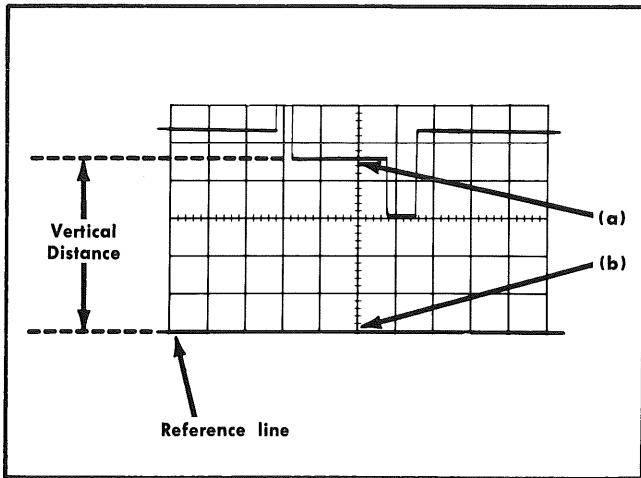

Fig. 2-2. Measuring instantaneous dc voltage with respect to a reference.
9. Measure the distance in divisions between the reference line established in step 6 and the point on the waveform to be measured. For example, in Fig. 2-2 the measurement is made between points (a) and (b).
As an example of this method of measurement, assume that the vertical distance is 4.6 divisions (see Fig. 2-2), INV (CH 1) NORM switch set to INV, using a $10\times$ attenuator probe and a VOLTS/DIV setting of 2.